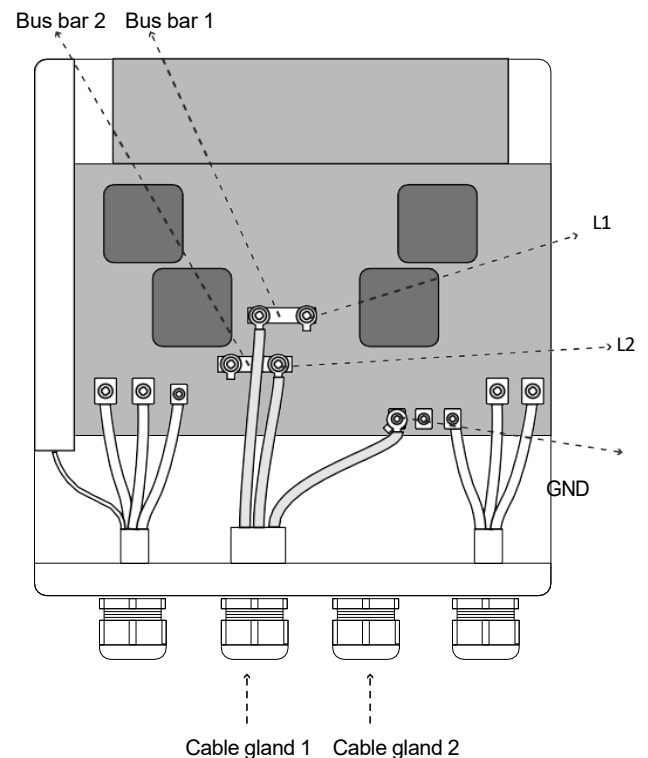

Figure 6
### Instructions to wire the unit with a single branch circuit of 80A (refer Figure 6)
- Unscrew the cable gland 1 at the bottom of the unit (see Figure 6) and pass the input wire through the cap of the gland into the unit box.
- Remove bus bars 1 and 2 (see Figure 6).
unit board as marked in the Figure 6.